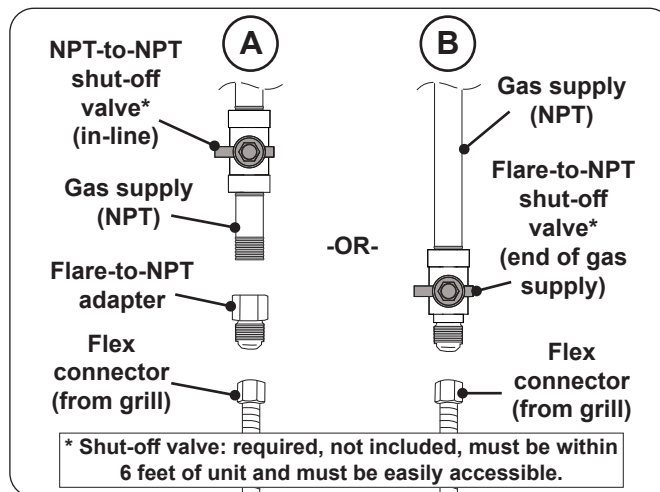

Fig. 24-2 Connecting to a gas line
- Install the supplied flare-to-NPT adapter to the gas supply (NPT) using a pipe joint compound resistant to all gasses (see Fig. 24-2, A). Tighten securely.
- Connect the flex connector to the adapter (see Fig. 24-2, A). Tighten securely.
- Connect the flex connector to the shut-off valve (flare) (see Fig. 24-2, B). Tighten securely.